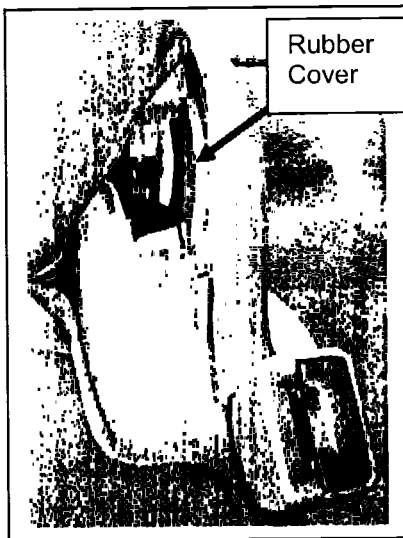

Figure 20a
- The rubber cover is properly positioned (see Figures 20a, 20b, and 20c below).